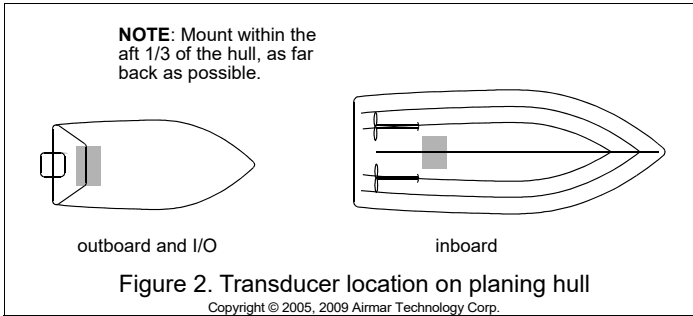

Figure 2. Transducer location on planing hull
- **Planing hull powerboat**— (Figure 2)